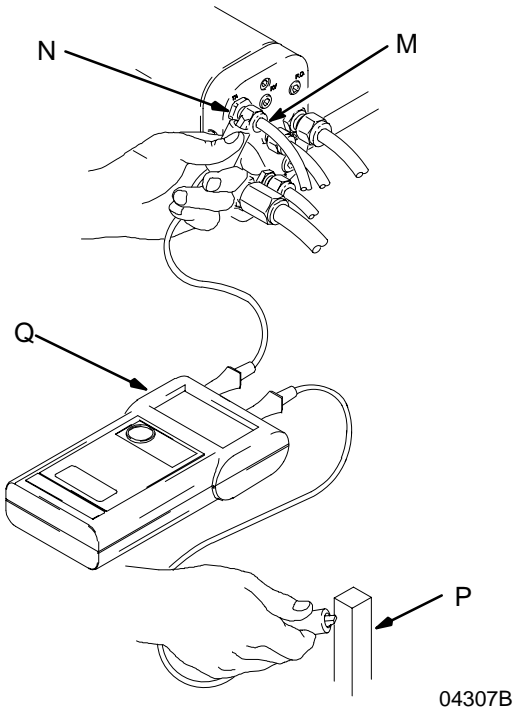

Fig. 16
1. Have a qualified electrician check the electrical grounding continuity of the gun and turbine air hose (M). See Fig. 16.
2. Make sure the turbine air hose (M) [the red Graco electrically conductive air hose] is connected and the hose ground wire is connected to a true earth ground.
4. Measure the resistance between the turbine air inlet fitting (N) and a true earth ground (P) with an ohmmeter (Q). Resistance should not exceed 100 ohms.